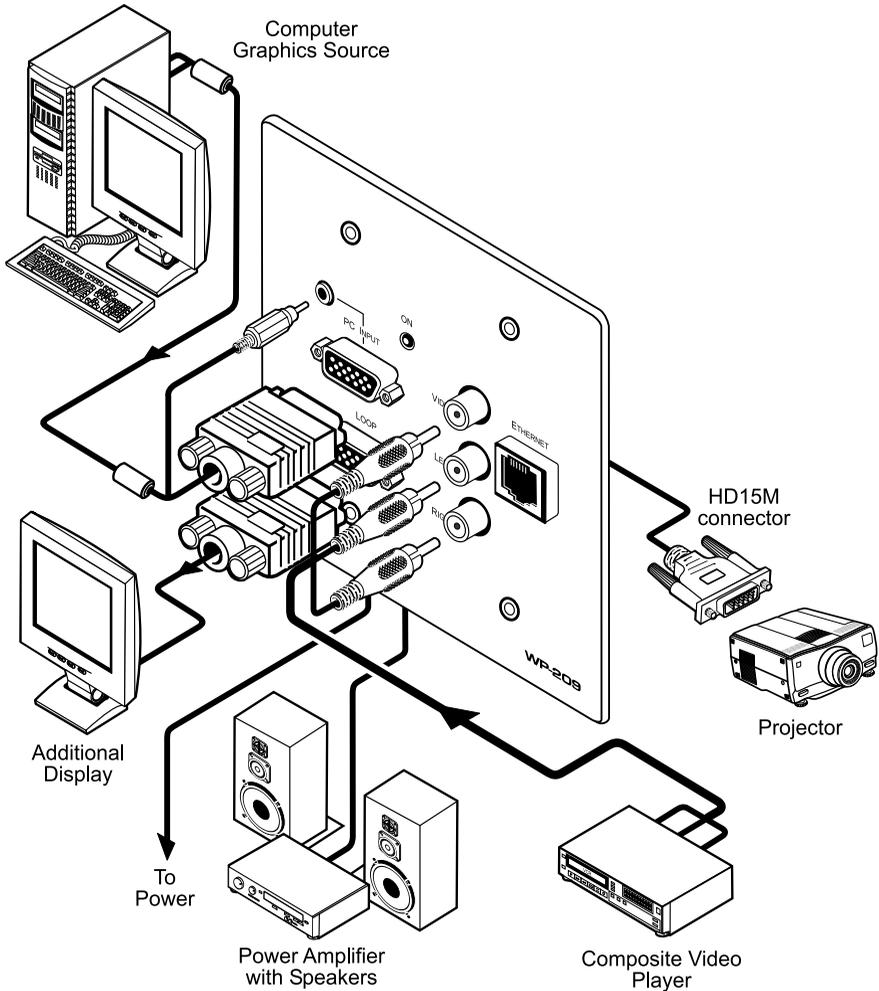

Figure 7: Connecting the WP-209
1. Connect the HD15M output connector1 to the pre-installed wiring in the wall box opening that connects to the UXGA acceptor (for example, a projector), as Figure 7 defines.